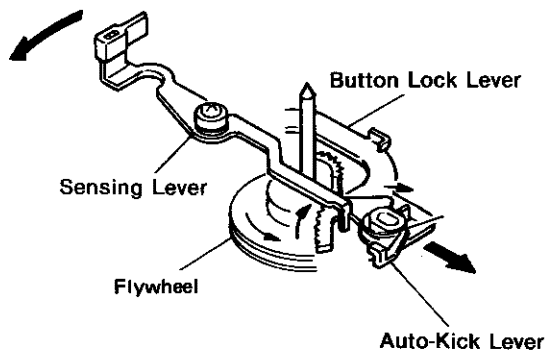

Figure 7
- 1) Check to see if the sensing lever, auto-kick lever and spring are too loose or too secure (Figure 7).